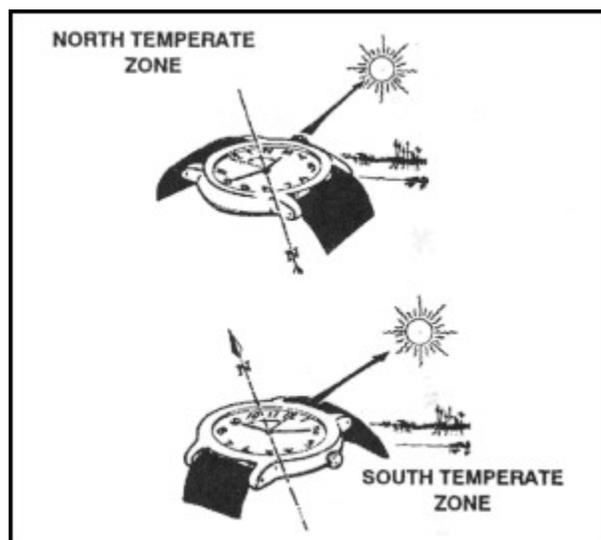

Figure 9-8. Determining direction by using a watch.
(1) A watch can be used to determine the approximate true north and true south. In the north temperate zone only, the hour hand is pointed toward the sun. A south line can be found midway between the hour hand and 1200 hours, standard time. If on daylight saving time, the north-south line is found between the hour hand and 1300 hours. If there is any doubt as to which end of the line is north, remember that the sun is in the east before noon and in the west after noon.
(2) The watch may also be used to determine direction in the south temperate zone; however, the method is different. The 1200-hour dial is pointed toward the sun, and halfway between 1200 hours and the hour hand will be a north line. If on daylight saving time, the north line lies midway between the hour hand and 1300 hours (Figure 9-8).